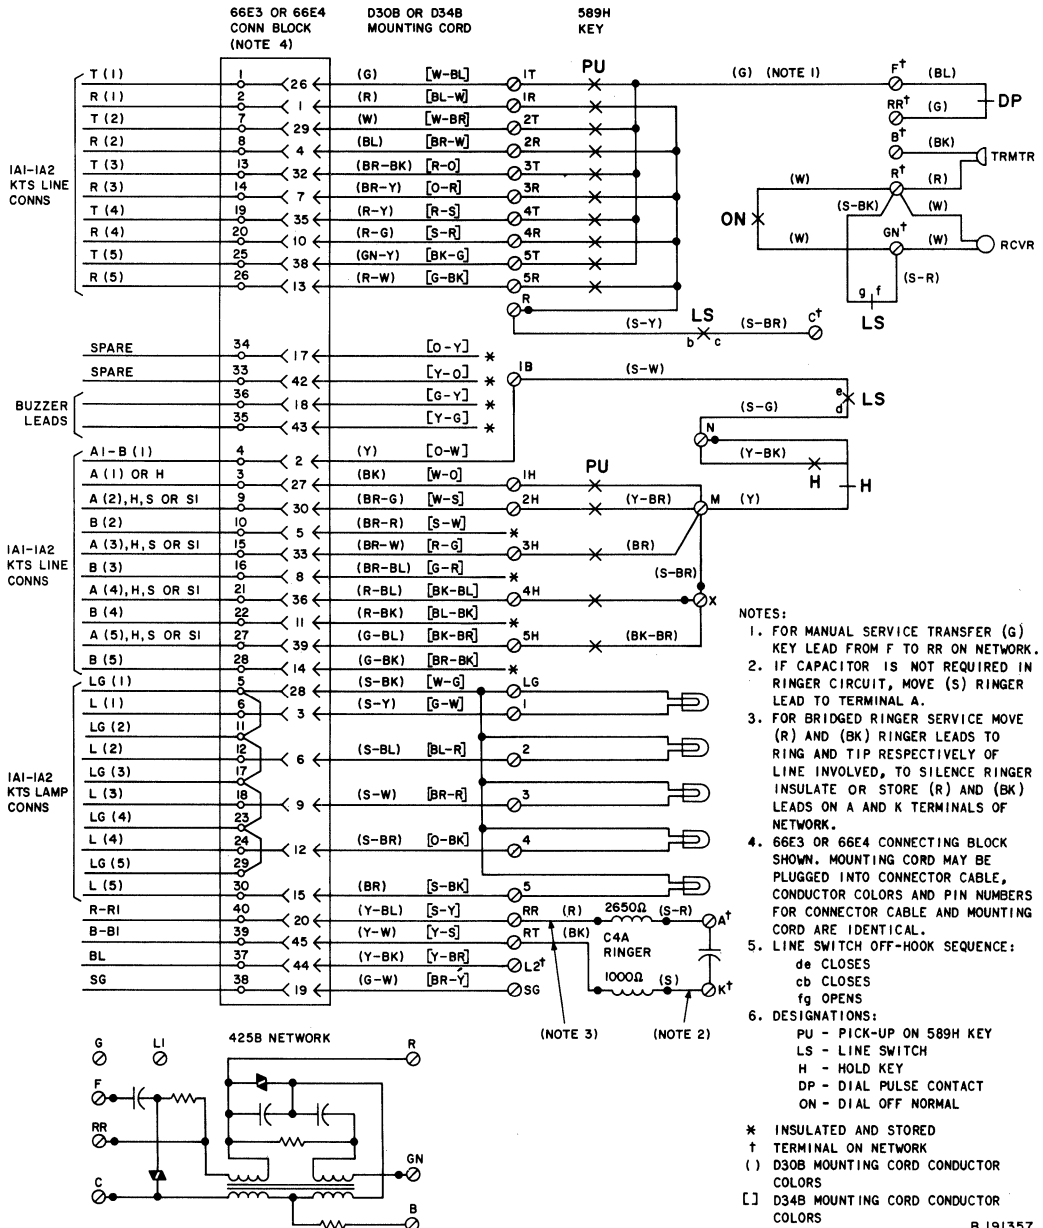

Fig. 1—564HD (MD) Telephone Set, Connections
- Revise Fig. 1, 2, 3, and 4
- 1.02** This section contains connection information for the 564HD (MD) telephone set.